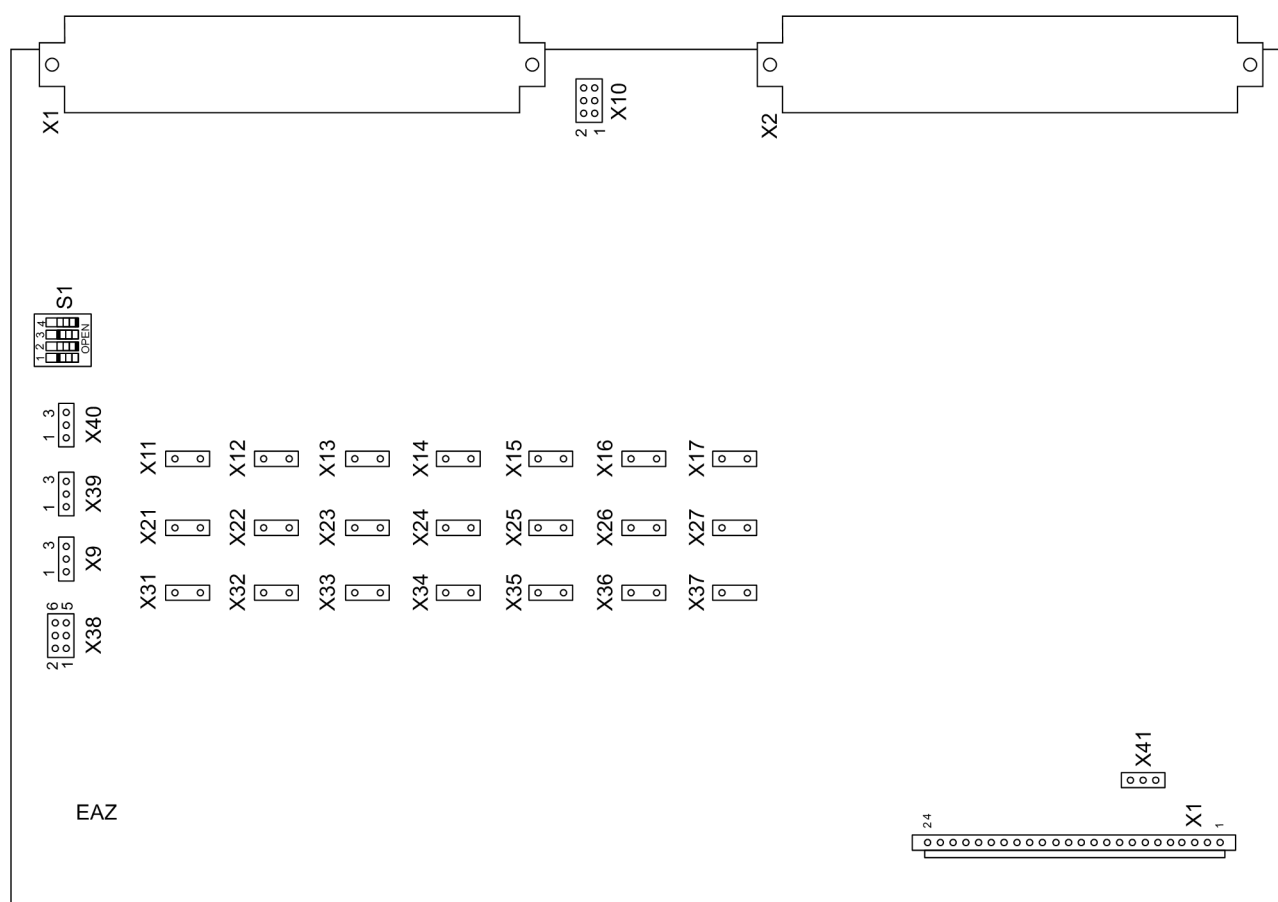

Figure 3-1 Location of the jumpers on the EAZ module (central unit)
- ❑ Change the rated control voltages for the binary inputs of the EAZ module as desired by relocating the jumpers (shown in Figure 3-1, page 32 and Table 3-1, page 32).